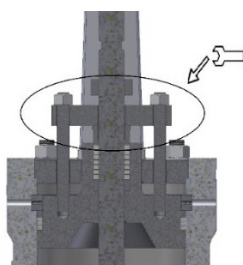

Figure A.20 – Stem packing gland tightening
- The gate stem packing should be the subject of particular attention as it is important for the qualitative maintenance of tightness and shall be checked every 3 months. If leakage at the stem packing is detected, the gland nuts should be tightened slowly (Figure A.20). Torque for tightness gland nuts shown in Table A.13. When gland nuts are tightened, if the gland falls down more than twice the packing ring height, new packing rings should be added to the stem packing.